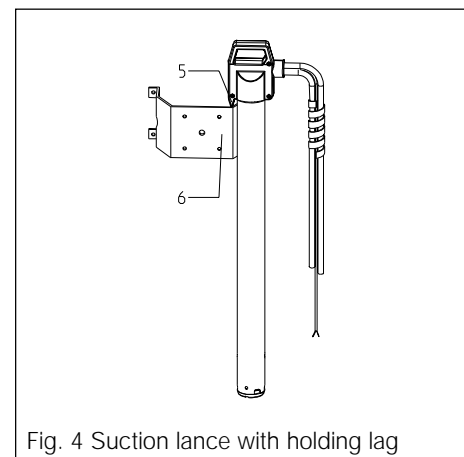

Fig. 4 Suction lance with holding lag
The suction lance is removed from the empty dosing container and until it is fed into the new container it can be hung with the holding lug (5) onto the hook (6) on the appliance (see Fig. 4).